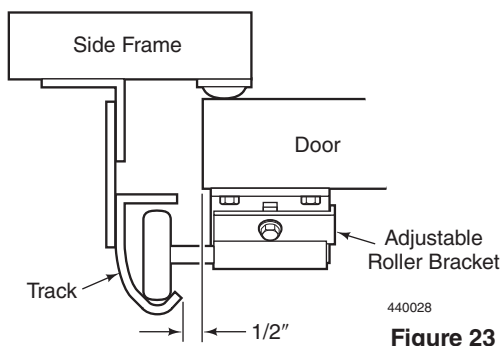

Figure 23
9. Verify the clearance between the Door and the Vertical Track. It should be 1/2". See Figure 23.